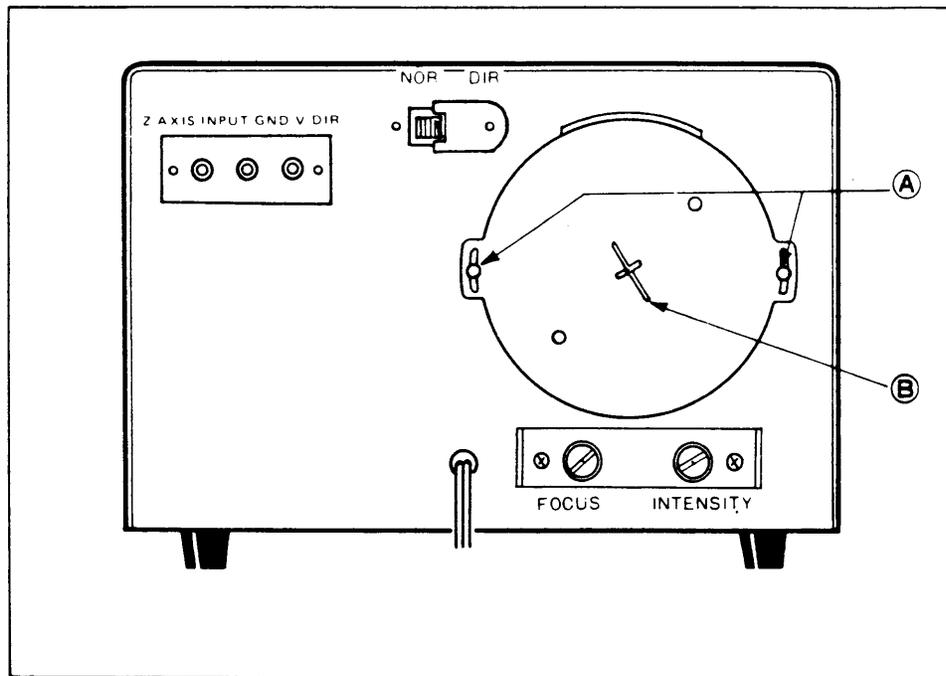

Fig. 8. Trace Rotation Adjustment.
- Refer to Fig. 8. Loosen the two screws
3. Completely remove the two screws which attach the CRT mounting plate to the rear of the chassis (Fig. 8).